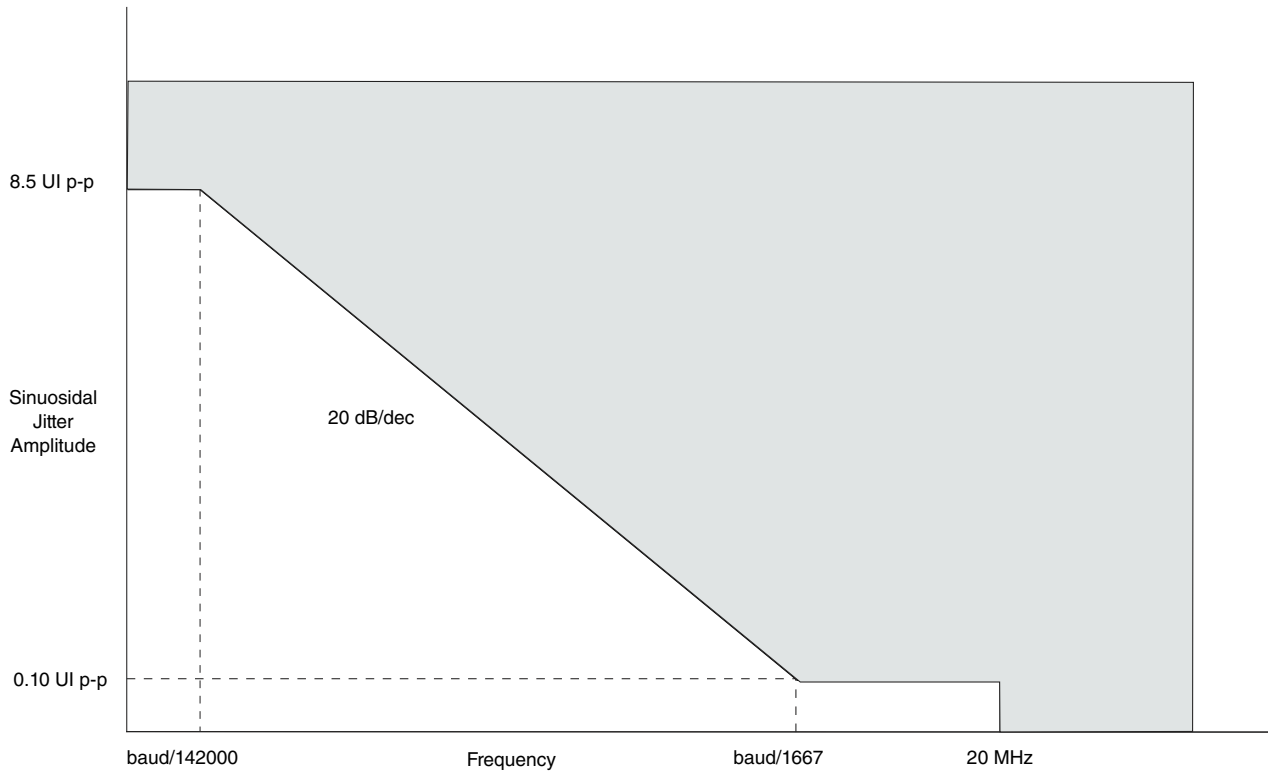

Figure 43. Single-frequency sinusoidal jitter limits, substitute the baud parameter in this figure by either 2.5G or 3.125G.
2. Total jitter is composed of three components: deterministic jitter, random jitter and single frequency sinusoidal jitter. The sinusoidal jitter may have any amplitude and frequency in the unshaded region of Figure 43. The sinusoidal jitter component is included to ensure margin for low-frequency jitter, wander, noise, crosstalk, and other variable system effects.